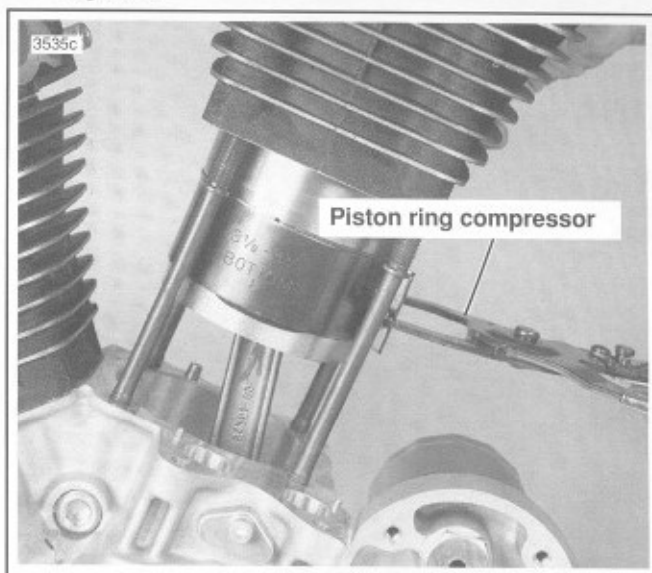

Figure 3-38. Installing Cylinder Over Piston
- See Figure 3-38. Compress the piston rings using PISTON RING COMPRESSOR (Part No. HD-96333-51B).